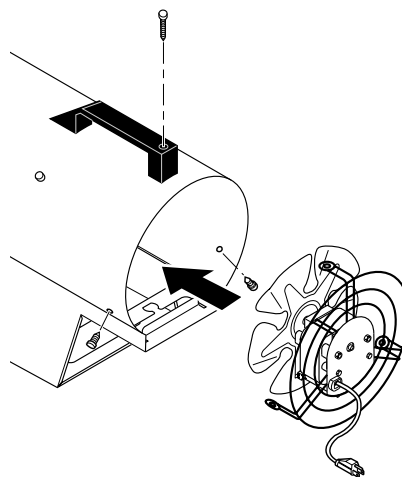

Figure 12 - Replacing Motor and Fan Guard into Heater
11. Place motor and fan guard into rear of heater shell. Make sure power cord is properly located (see Figure 12).
8. Place motor and fan guard into rear of heater shell. Make sure power cord is properly located (see Figure 12, page 8).